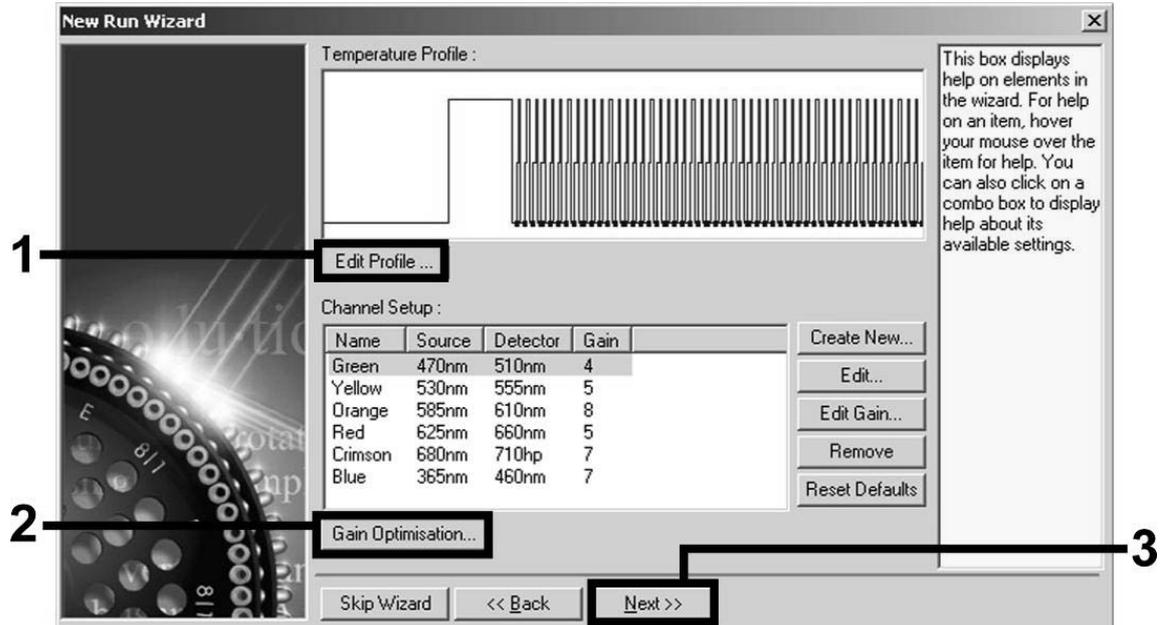
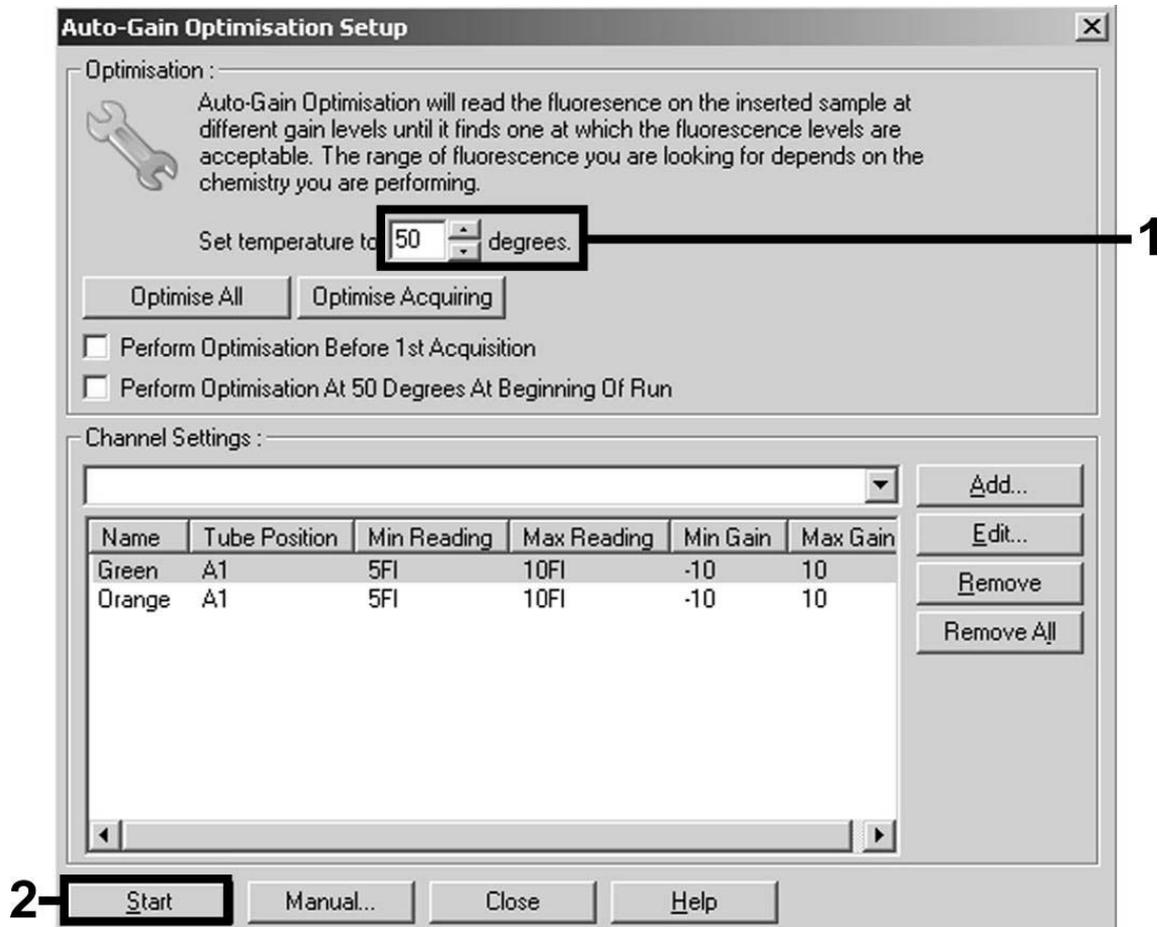

Figure 7. Editing the profile.
Figure 11. Adjusting the fluorescence channel sensitivity.
| Adjusting the fluorescence channel sensitivity | Figure 11       |
- Click the “Edit Profile” button in the next “New Run Wizard” dialog box (Figure 7), and program the temperature profile as shown in Figures 7–10).
7. The detection range of the fluorescence channels has to be determined according to the fluorescence intensities in the PCR tubes. Click "Gain Optimisation" in the "New Run Wizard" dialog box (see Figure 7) to open the "Auto-Gain Optimisation Setup" dialog box. Set the calibration temperature to 50 to match the annealing temperature of the amplification program (Figure 11).